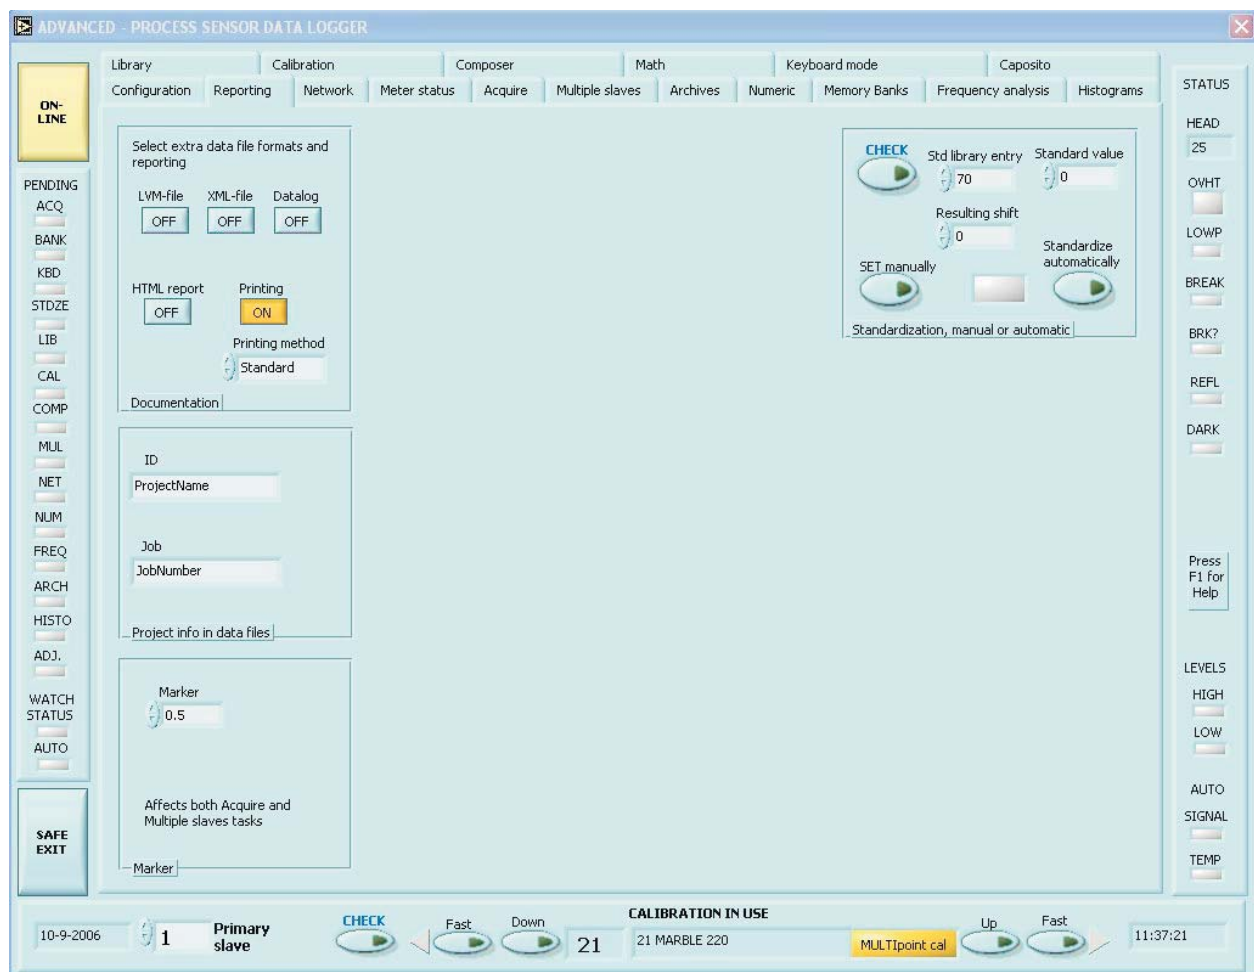

Figure 1. The standardization task on the Reporting page in the Advanced program
3. The Standardization is on its own page in the programs or with other tasks, refer to Figure 1. Press the button **Check** to retrieve the current parameters. The table number should be 70 unless you have changed it for a good reason. The standard value is shown too if this has been done before. The cumulative difference (Resulting shift) or correction value is shown too. This value should be zero at this time. If not, edit it and press the button **SET manually**. Select the table number **70 factory calibration**.
3. The Standardization is on its own page in the programs or with other tasks, refer to Figure 1. Press the button **Check** to retrieve the current parameters. The table number should be 70 unless you have changed it for a good reason. The standard value is shown too if this has been done before. The cumulative difference (Resulting shift) or correction value is shown too.